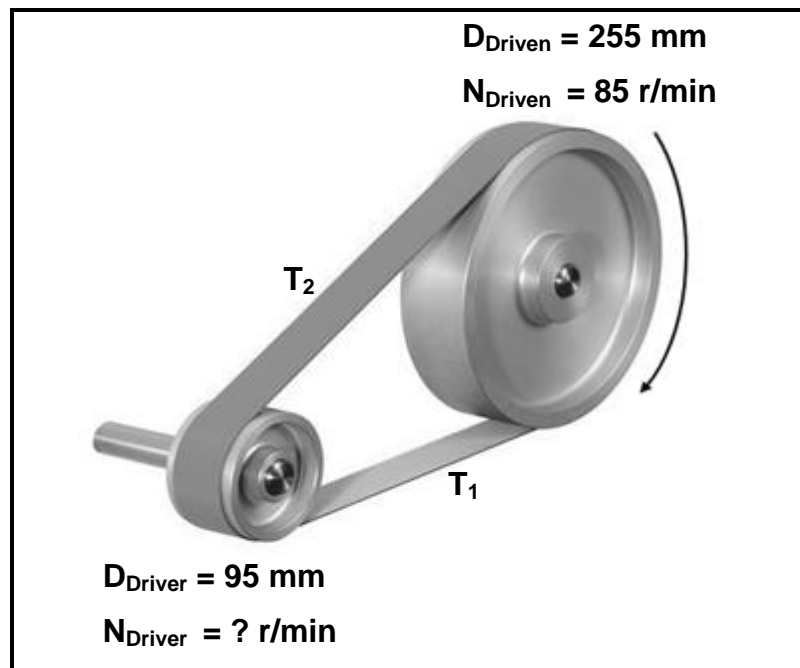

FIGURE 11.5
- 11.5 FIGURE 11.5 shows a belt drive system with a driven pulley of 255 mm rotating at 85 r/min. The diameter of the driver pulley is 95 mm. Answer the questions that follow.